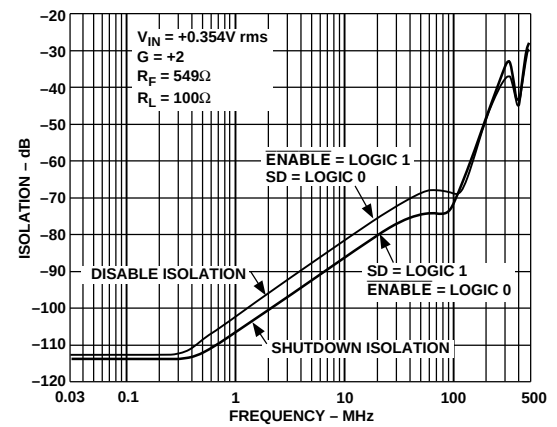

Figure 14. AD8174R Disable and Shutdown Isolation vs. Frequency
⁷AD8174 only. Shutdown (SD) pin is grounded. Mux is disabled, (i.e., $\overline{\text{ENABLE}} = \text{Logic 1}$) and all inputs are driven simultaneously with $V_{IN} = 0.354$ V rms. Output is monitored at $f = 5$ MHz and 30 MHz; $R_L = 100$ Ω . In this mode, the output impedance of the disabled mux is very high (typ 10 M Ω), and the signal couples across the package; the load impedance and the feedback network determine the crosstalk. For instance, in a closed-loop gain of +1, $r_{\text{OUT}} \approx 10$ M Ω , in a gain of +2 ($R_F = R_G = 549$ Ω), $r_{\text{OUT}} = 1.1$ k Ω (see Figure 14).
⁸AD8174 only. $\overline{\text{ENABLE}}$ pin is grounded. Mux is shutdown (i.e., SD = Logic 1), and all inputs are driven simultaneously with $V_{IN} = 0.354$ V rms. Output is monitored at $f = 5$ MHz and 30 MHz; $R_L = 100$ Ω . (see Figure 14). The mux output impedance in shutdown mode is the same as the disabled mux output impedance.